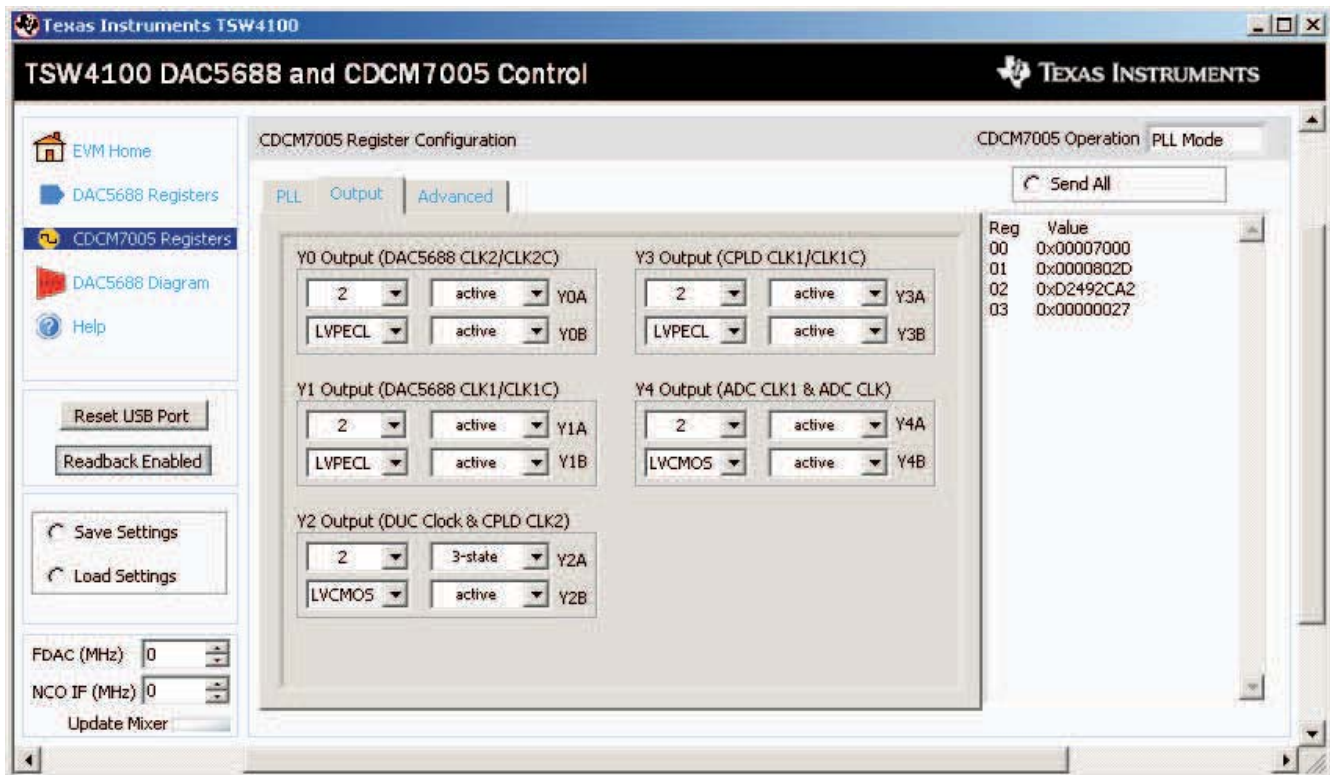

Figure 15. CDCM7005 Interface
3. To make changes to the CDCM7005, click the *CDCM7005 Registers* option in the top, left-hand corner. The CDCM7005 interface (Figure 15) displays.